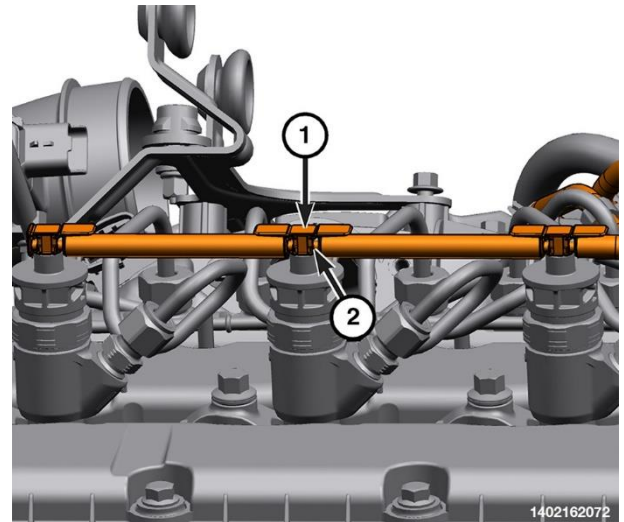

Figure 110 – Fuel Return Hoses
28. Lift up on locking tabs (1) to unlock the locks (2) on the right bank fuel return hoses on the tops of the injectors (Figure 110).
29. Remove the fuel return hoses (2) by wiggling hoses free from the fuel injector (Figure 110).